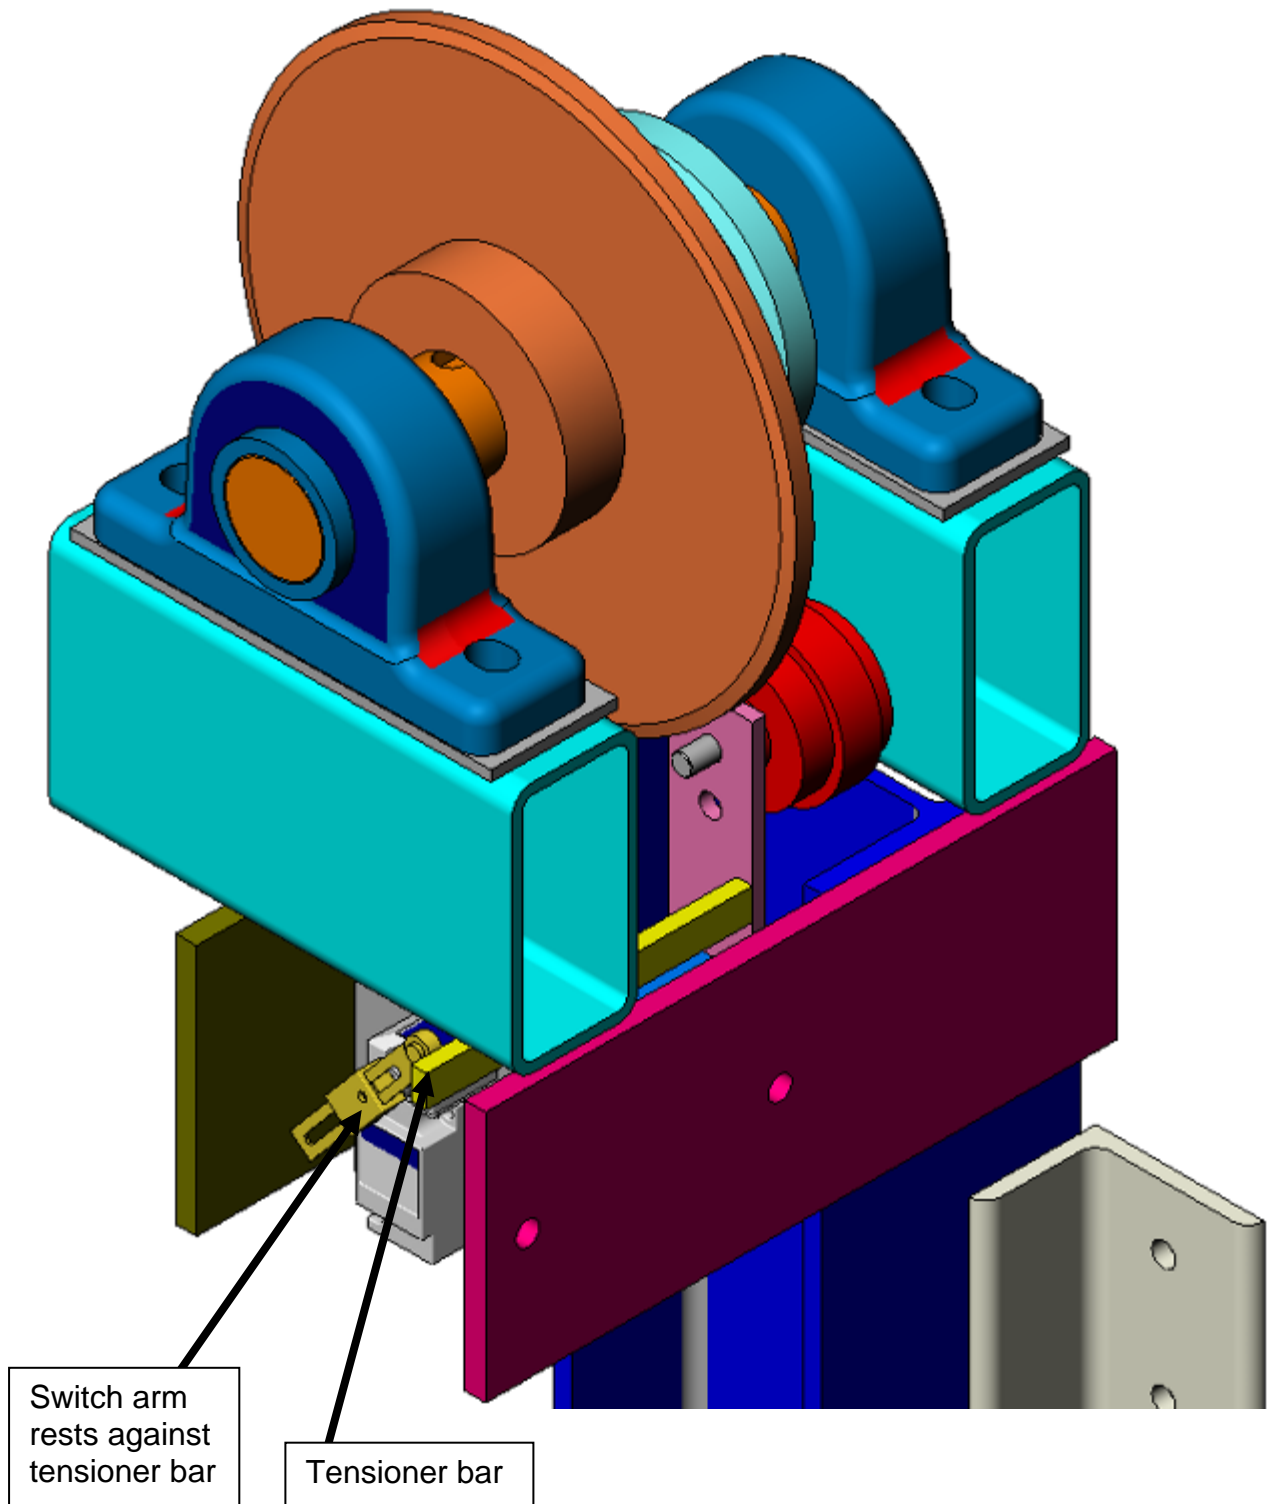

Figure 38b Slack Chain Sensing Switches – Lifting Chains (completed)
- e. Now, with your free hand, pick up the switch arm assembly that you have close by and push it onto the end of the sensing switch actuator until the end of the actuator is flush with the top of the switch arm – making sure that the roller on the end of the arm is making contact with the tensioner bar as shown. (Fig. 38b)